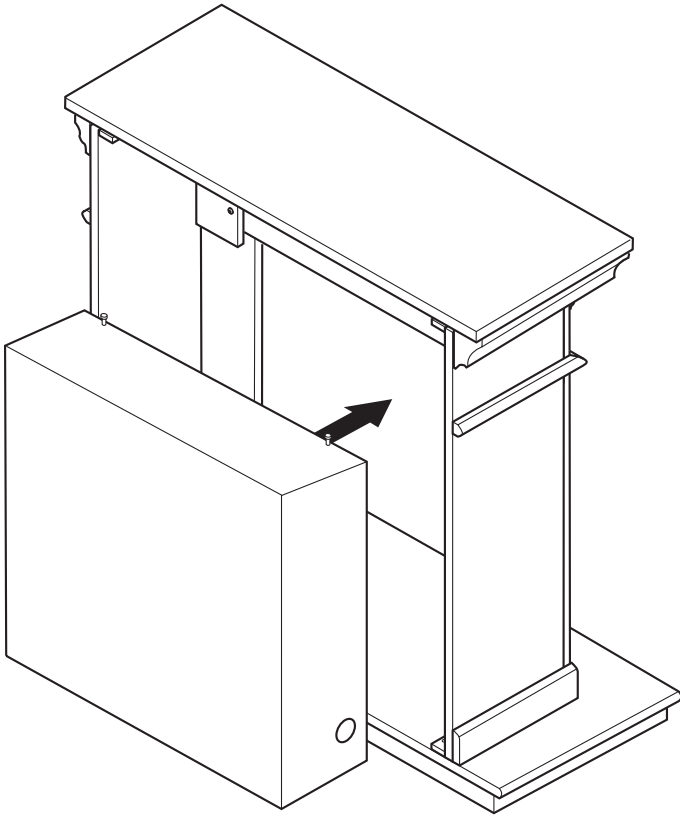

Figure 4 - Installing Gas Fireplace
5. Position fireplace inside mantel (see Figure 4, page 3). Carefully position gas lines. **IMPORTANT:** Use caution when positioning fireplace on base. Base may scratch easily. Make sure fireplace is in proper position within mantel opening before continuing with installation.